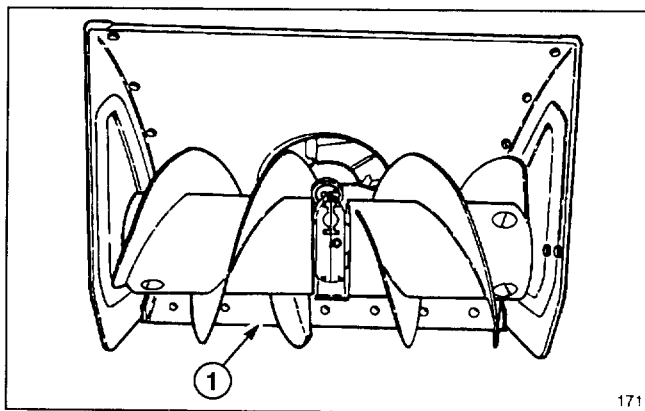

Figure 7
2. Move the snowthrower onto a flat surface and check if scraper (Fig. 7) is parallel to the ground. If not, adjust scraper; refer to Adjusting Scraper, page 15.